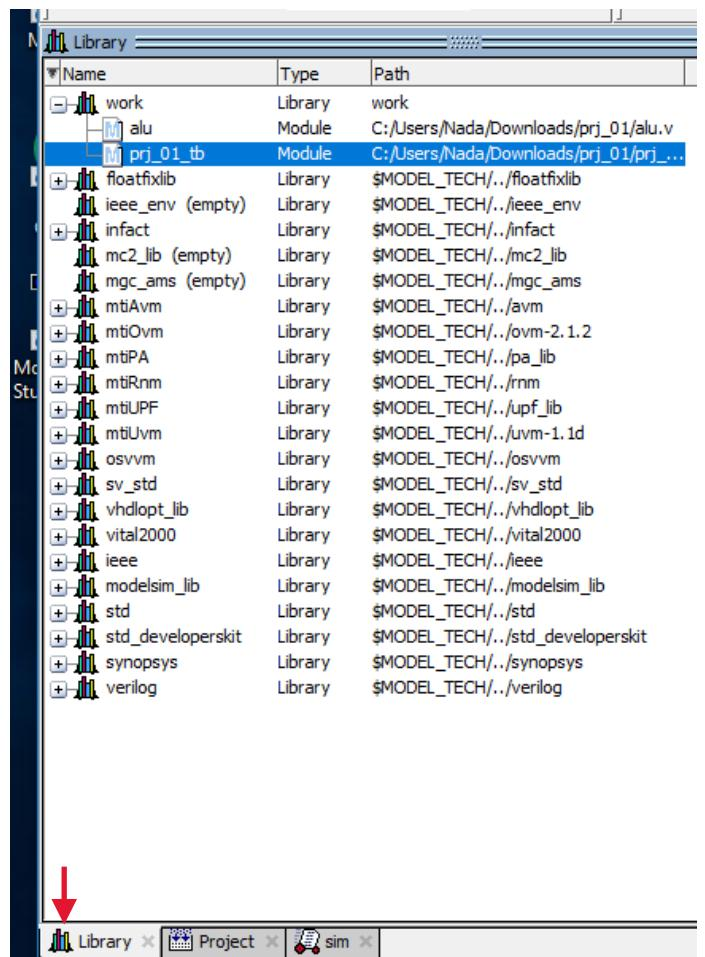

Figure 2.8: Running Test Bench Code
- 5) This step is done in the ‘library’ tab. Access it, then double-click on a folder called ‘work’, and double-click on the test bench file that appears under work:’proj_01tb’ (Figure 2.8).